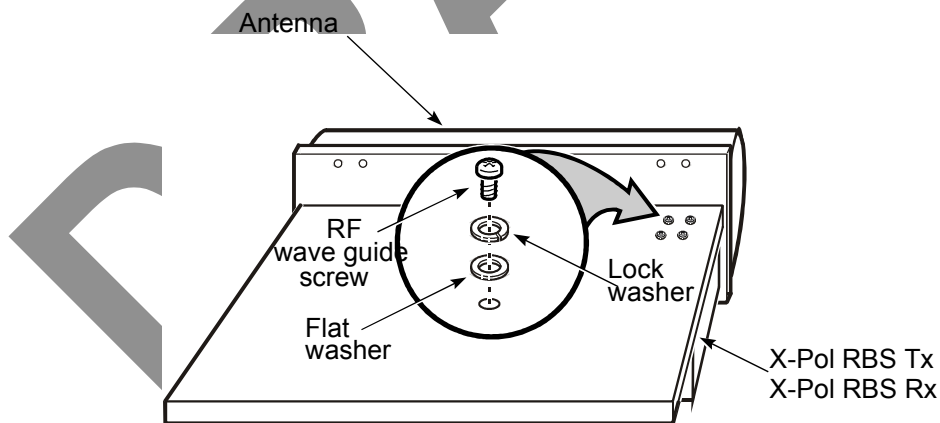

Figure 11 – Installing the RF wave guide screws
5. As shown in *Figure 11*, place a lock washer and a flat washer on each of the four RF wave guide screws, and insert and tighten each of the four screws to 0.56 Nm (5 in.-lb) torque.